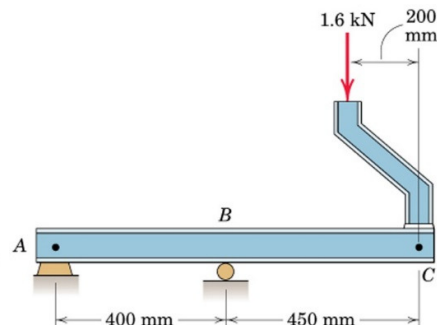

Fig. 6
Q. No. 6 The angle strut shown in Fig. 6 is welded to the end C of the I-beam and supports the 1.6-kN vertical force. Determine the bending moment at B and the distance x to the left of C at which the bending moment is zero. Also construct the moment diagram for the beam.